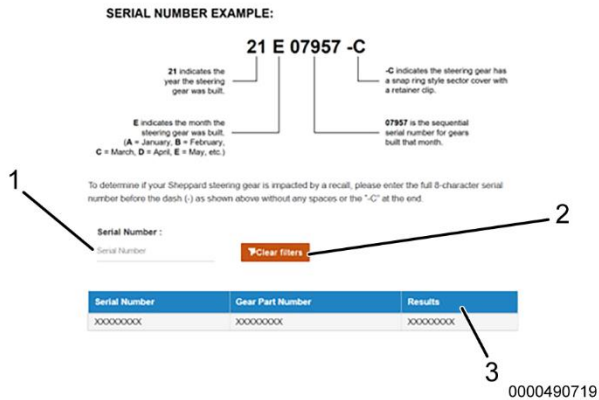

Figure 2. Steering Gear Classification Tool
- a. Enter the serial number (Figure 2, Item 1).
- b. If the result is **Good** or **Serial Number Entered Is Outside The Date Range**, (Figure 2, Item 3), replacement is not required. Proceed to Step 23.
- c. If the result is **Not Found** (Figure 2, Item 3), follow instructions on R.H. Sheppard website.
- d. If the result is **Suspect** (Figure 2, Item 3), the steering gear will require replacement. Proceed to Step 7.
- e. If a different serial number needs to be checked, click **Clear Filters** (Figure 2, Item 2) and submit the new number.